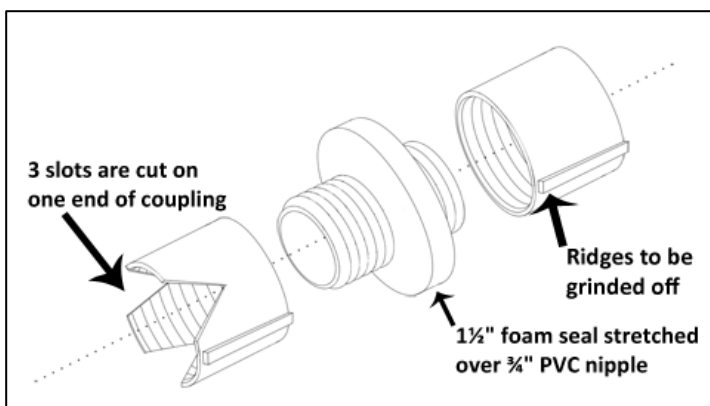

Figure 18 - Exploded view of coupling assembly for piston
- iv. Cut three triangular slots on one end of the coupling as shown in Figure 18 (previous page).